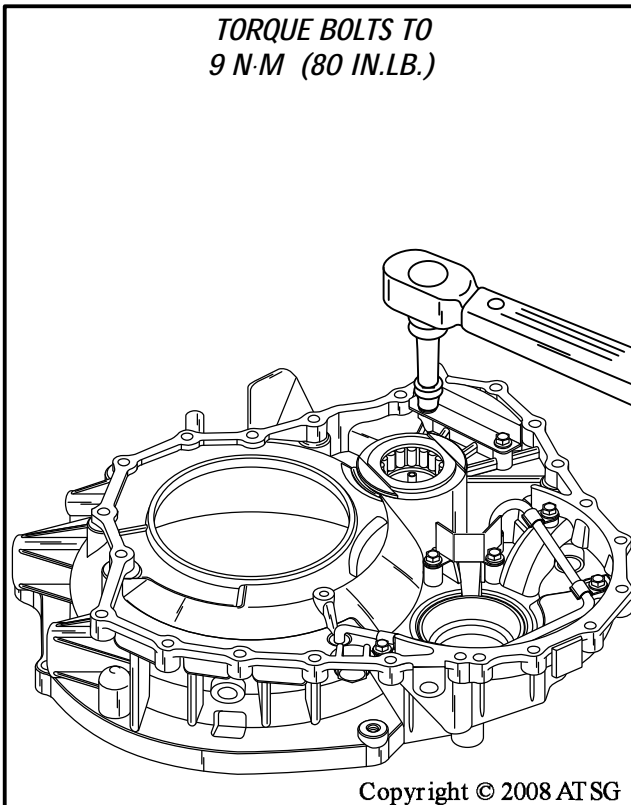

Figure 95
7. Torque all of the oil pipe and oil baffle bolts just installed to 9 N·m (80 in.lb.), as shown in Figure 95.